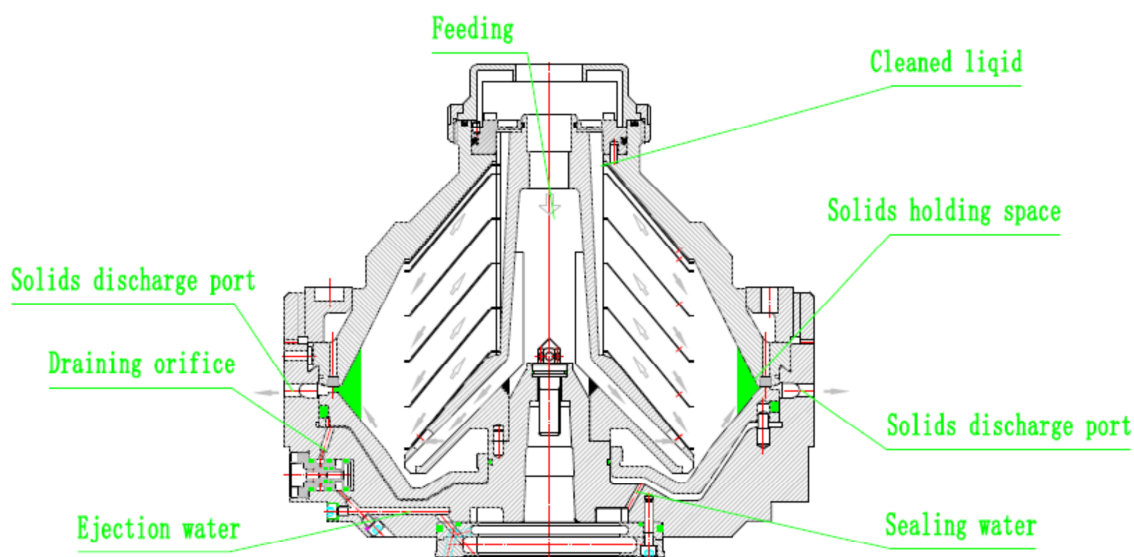

Fig 2 Working principle
6. Working principle (see attach fig. 2)